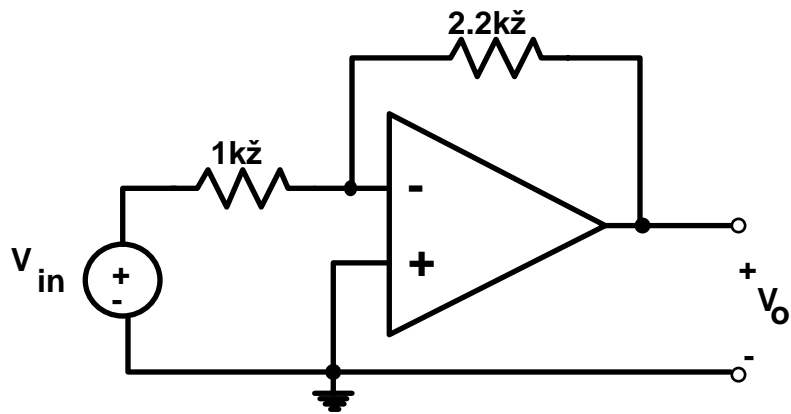

Figure 8.4b Ø
(2) Assemble the circuit of Figure 8.4b on the trainer breadboard. Measure the resistors used. As for the previous circuit, measure and record the output voltage as you vary the input voltage from -7 to +7 volts in 0.5 volt steps.
(3) Now use the signal generator in place of the bench power supply for V_{in} (still the circuit of Figure 8.4b). Observe the signal generator signal on channel A of the oscilloscope and the op amp output on channel B. Make sure the 'scope inputs are set for DC coupling. Adjust the signal generator for a sinewave at ~ 500 Hz frequency, and adjust the amplitude so that the signal *out of the op amp* is 4 volts peak-to-peak. Determine the input peak-to-peak voltage.
(4) Modify the circuit of Figure 8.4b by adding another input as shown next: